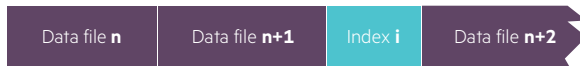
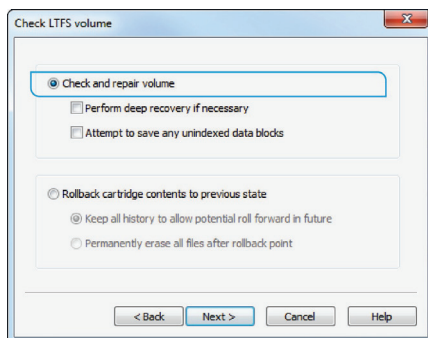

Figure 14. Missing EOD
Figure 15. Windows CheckWizard options
The third case is shown in Figure 14, which illustrates what may happen if the drive loses power whilst actually writing data:
3. Follow the prompts, making sure you read them carefully. Select the option for “Detailed progress information” if desired; then on the next screen choose the option “Check and repair volume” (as shown in Figure 15). If you think that the scenario shown in Figure 14 may apply, then check the box “Attempt deep recovery.” (It is not harmful to select it regardless, but the recovery process will usually take longer.) You can also indicate here if you want HPE StoreOpen to try to save any unidentified data blocks.
3. If you think that the scenario shown above in Figure 14 may apply, then include the option:
3. If you think that the scenario shown above in Figure 14 may apply, then check the box labeled "Attempt Deep Recovery." It is not harmful to select it regardless, but the recovery process will usually take longer.